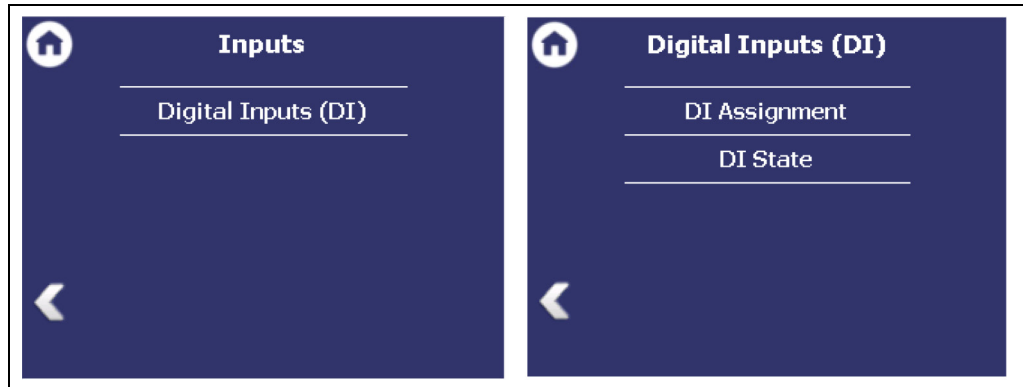

Fig. 81 Menu "Inputs"; Submenu "Digital inputs (DI)"
1. Activate the check box (Fig. 81, item 1).
2. Click on the arrow key (Fig. 81, item 2) in order to set the date.
3. Click on the year (Fig. 81, item 5) to select the year with the arrow keys.